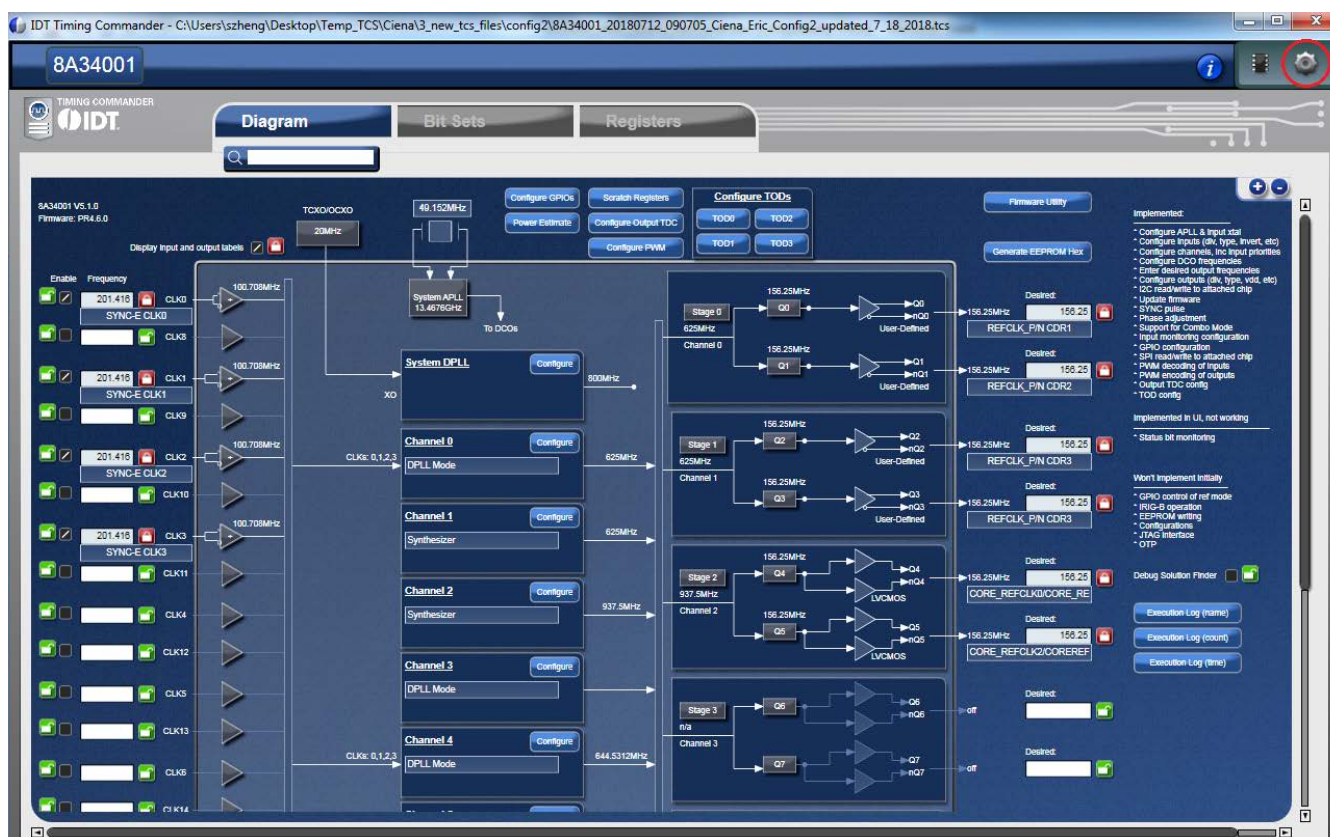
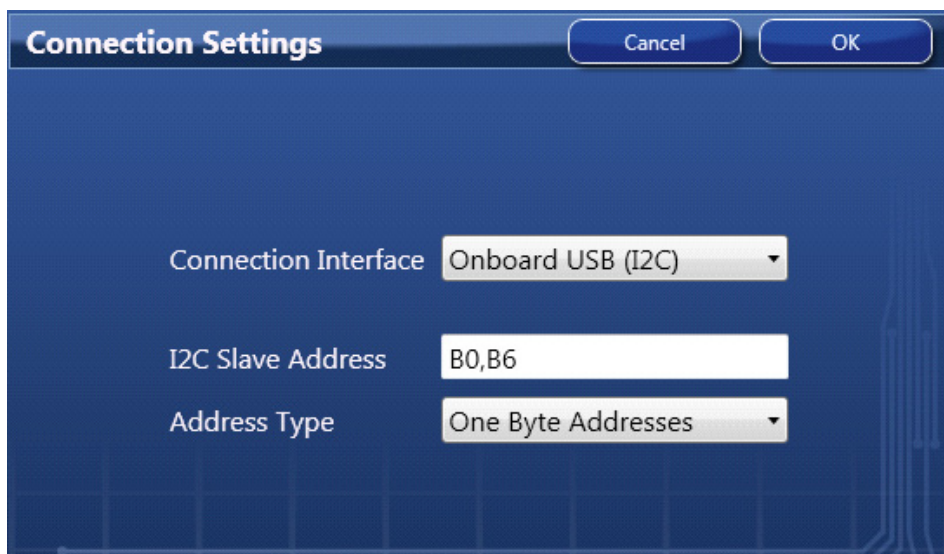

Figure 10. Timing Commander GUI with a Settings File Opened
Figure 11. Setting I2C for Connecting the Board with GUI
4. The GUI window with the 8A34001 block diagram will open for configurations; or if “Open Settings File” is selected in Step 3 above, you will be prompted to browse and select an existing .tcs file and the personality file. When the configuration file is open, all configured values will be displayed as in Figure 10.
5. In order to connect the board with Timing Commander (PC), click the button (red circle) at the up-right corner of the GUI to set up the communication protocols (see Figure 10). After I2C and one-byte addressing are selected, click OK to close the window (see Figure 11).